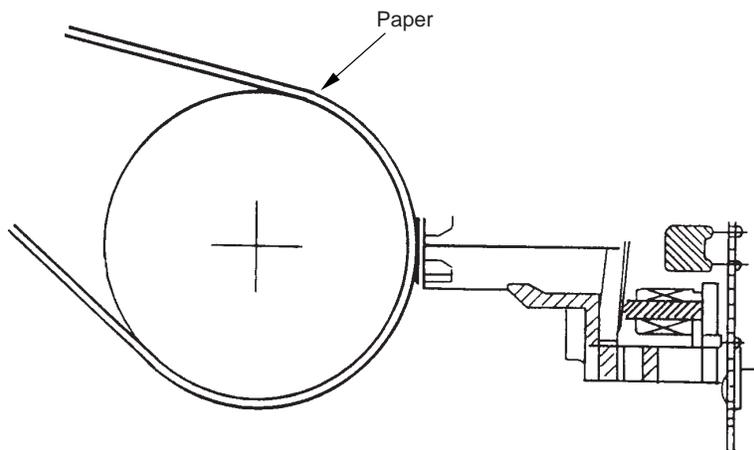

Figure 2-3
(2) Printhead Operation (See Figure 2-3.)